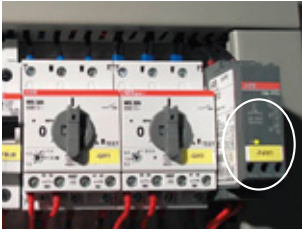

Figure 2-6: Phase Detection Relay Light (F4M1)
9. During the Controller self-initialization, when contactor KR1 pulls in, verify that the phase sequence detector (PSD) (F4M1) light is illuminated (Figure 2-6). For this brief period, voltage will be available for the PSD. If light is does not illuminate, perform the following: